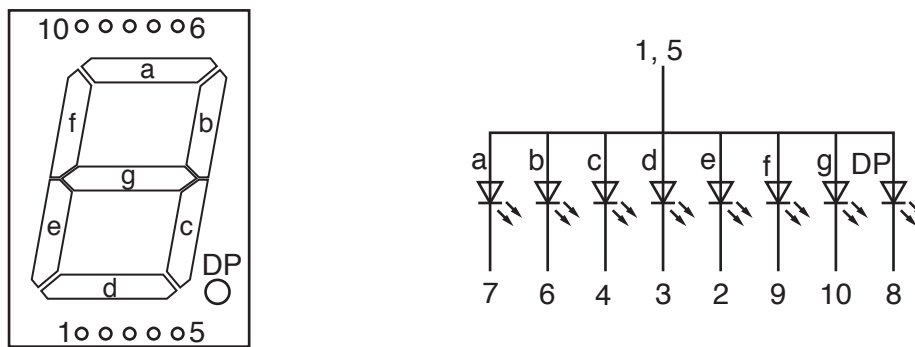

Fig. 19
- (d) Fig. 19 shows the outline of a seven segment display with the pin diagram for the display.